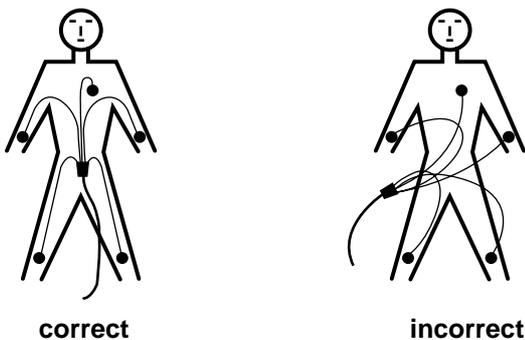

Figure 4-5. Arranging the patient cable
- Arrange the leadwires and patient cable as shown in Figure 4-5.